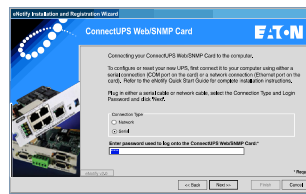

Figure 14. Install Cable and Set Card Connection
- Follow the instructions on the ConnectUPS Web/SNMP Card screen (Figure 14) to connect the appropriate cable and enter the **Connection Type** and **Password**.